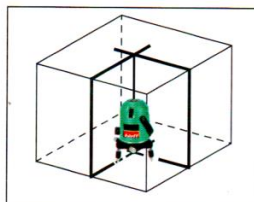
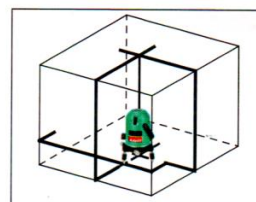

Fig. 5
Fig. 6
- Press the V button. The unit projects the vertical laser-beam lines as illustrated in Fig. 5. Press the V/H button. The unit projects the laser-beam lines (2 vertical and horizontal ones) as illustrated in Fig. 6.